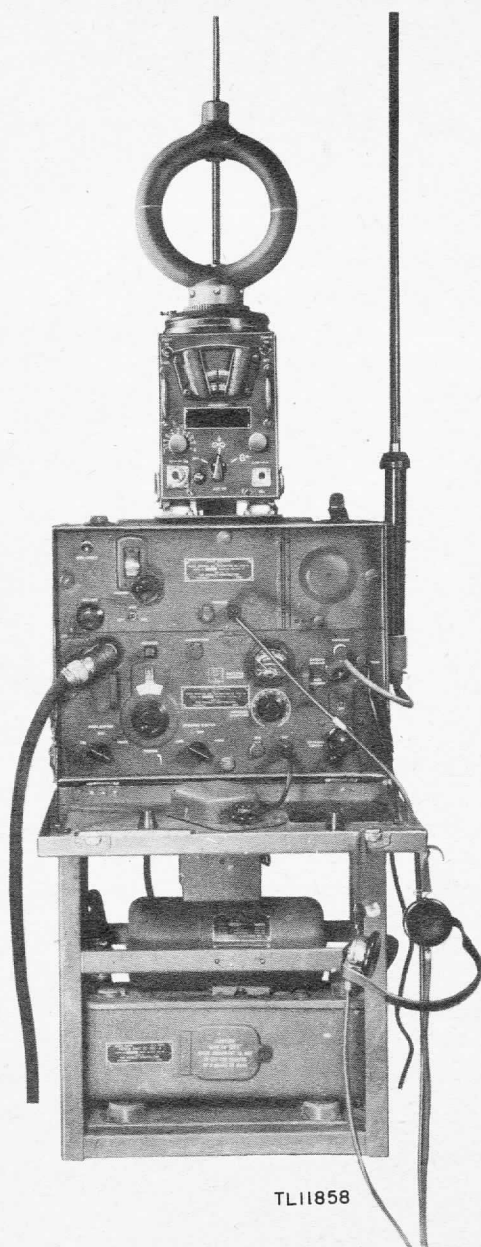

Figure 9. Antenna System AS-81/GR, mounted on Radio Set SCR-284-(&).
7. INSTALLATION WITH RADIO SET SCR-284-(&) (figs. 9, 10, and 11).